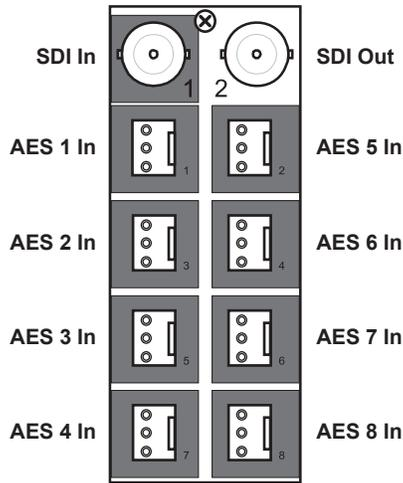

Figure 6 Cable Connections for the MUX-8258-B
- **DFR-8310 series frame** — The **8310AR-034** Rear Module is required. Each rear module occupies one slot and accommodates one card. This rear module provides one SDI input, one SDI output and eight balanced AES inputs. (**Figure 6**)
- **DFR-8320, OG3-FR, and OGX-FR series frames** — The **8320AR-034** and **8320AR-034A** rear modules are supported. Each rear module provides one SDI input, one SDI output, and eight balanced AES inputs. (**Figure 6**)